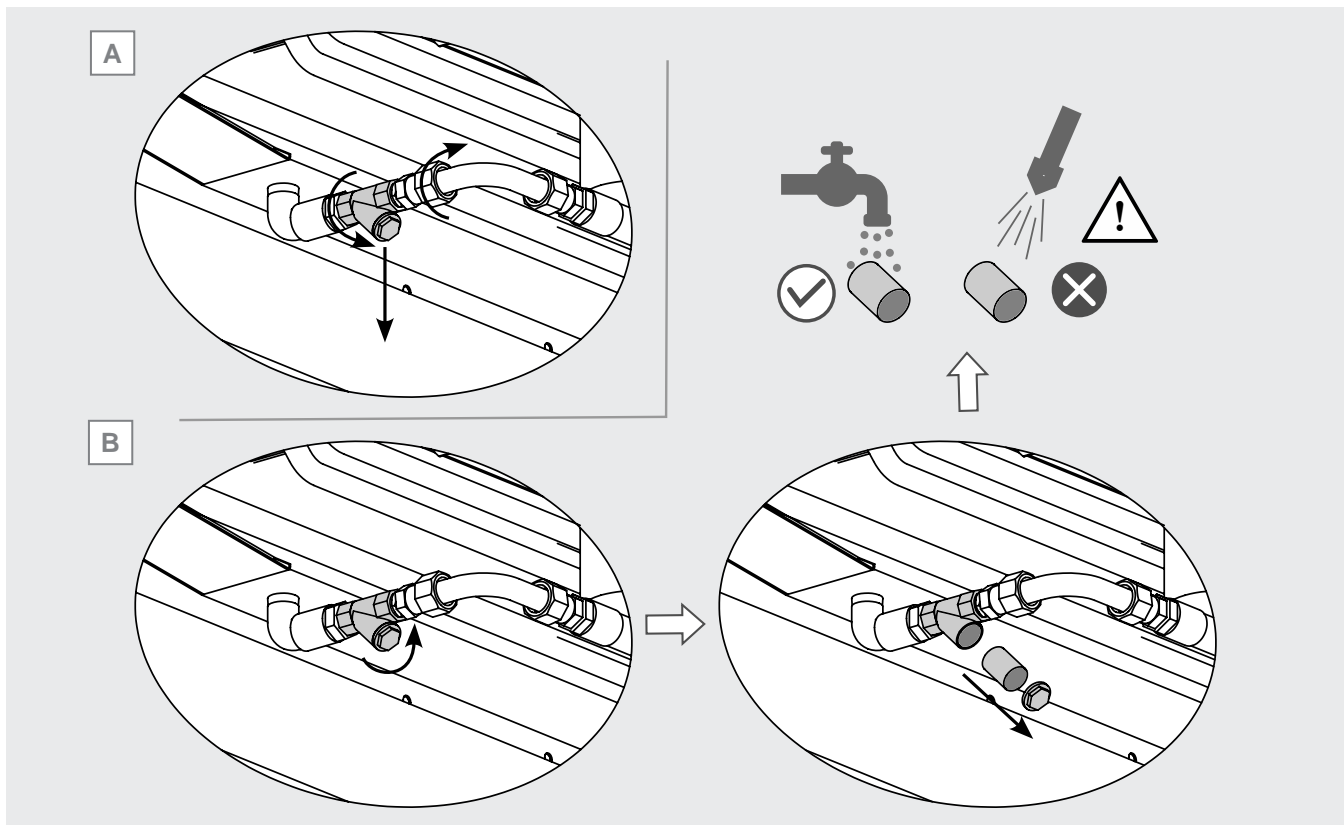

Figure 33
- 12.18.6 If the entire filter has to be replaced, unscrew the connections at the ends, see Figure 33 A: first the quick coupling and then the nut. Remove the filter and replace it with a new one with the same dimensions and characteristics: pay attention to the pressure rating on the housing. Contact Modine if necessary.
- 12.18.7 To clean the filter, unscrew the sealing cap at the bottom of the body, remove it and remove the inner drum. Take care not to damage the drum. See Figure 33 B.